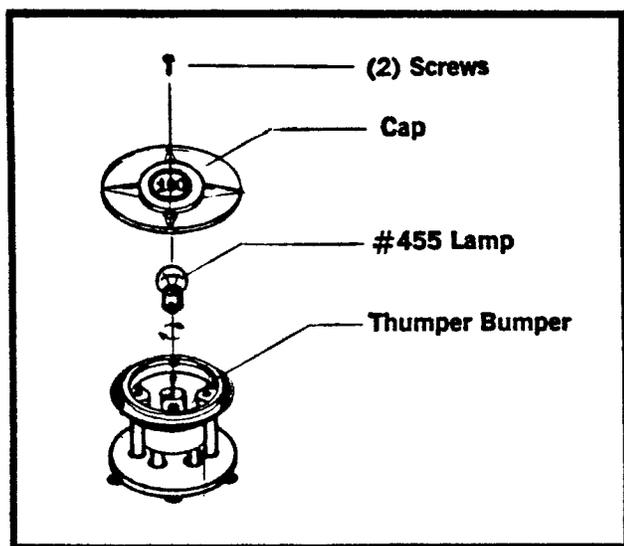

Fig. 9-38. Thumper bumper lamp replacement. Use a 455-type bulb.
3. Twist out the burned out lamp and replace it with a new 455-type bulb. Refer to Fig. 9-38.